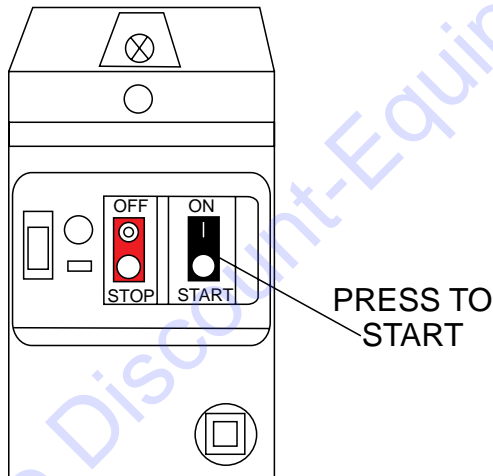

Figure 24. Electric Motor On/OFF Switch (Start)
- To start the electric motor, press the black **ON/START** switch (Figure 24).